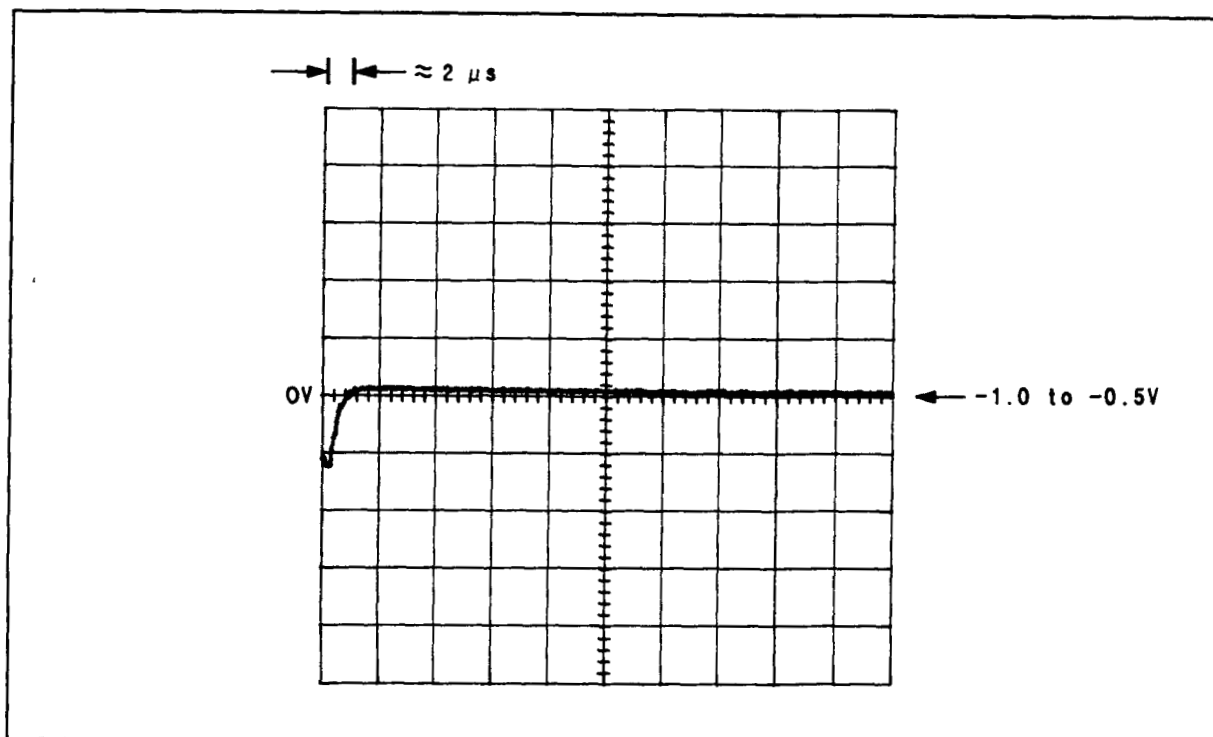

Figure 8F-32. Waveform for $\sqrt{1}$ Step 4
4. Check the voltage at the collector of Q5 with a high-impedance, dc coupled oscilloscope. The waveform should be a square wave with an amplitude of approximately 1.6 Vpp and a period of approximately 2.8 ms, but more importantly, observe the falling edge. Set the oscilloscope to trigger on a negative slope with a sweep time of 2 μs per division. The waveform will be intermittently stable and very faint but the falling edge should be as in Figure 8F-32.